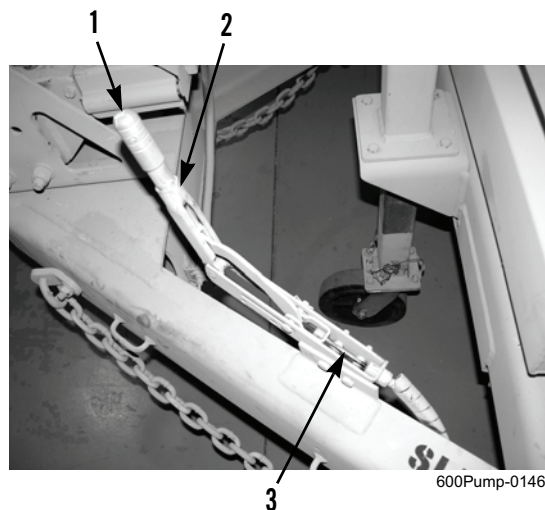

Figure 1. Hand Brake Lever.
1. Place hand brake lever (Figure 1, Item 2) in released (vertical) position. Turn adjustment knob (Figure 1, Item 1) counter-clockwise (left) to provide slack in hand brake cable (Figure 1, Item 3).
4. With hand brake lever (Figure 1, Item 2) in released (vertical) position, turn adjustment knob (Figure 1, Item 1) clockwise (right) to take up slack in hand brake cable (Figure 1, Item 3). Lever is adjusted correctly when cable has slack during one-third of its travel from released to applied position.